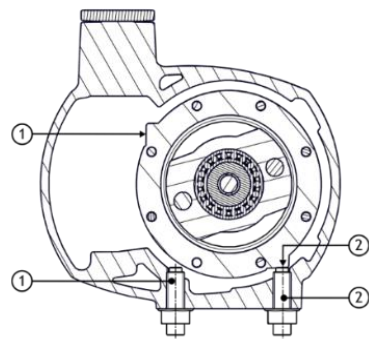

Figure 3 Mechanical stops
1. Loosen the nut corresponding to the clockwise mechanical stop (2 in **Figure 3**).
6. Loosen the nut corresponding to the counterclockwise mechanical stop (1 in **Figure 3**).